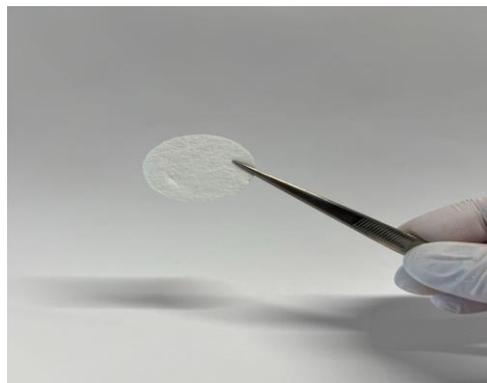

Figure 6. Fix the Gelacell discs using mounting media for imaging.
4. **Handling:** Unclip the cell crown by rotating the bottom part (small part). Use fine point tweezers/forceps (straight or angled) to hold the scaffolds (see Figure 6) and place it on a glass slide. Add one or two drops of mounting media to fix the inserts and cover it with cover slip (Figure 6).